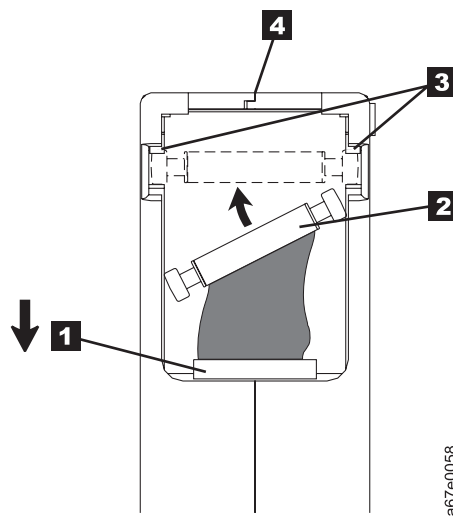

Figure 121. Placing the dislodged leader pin into the correct position. The cartridge door is open to show the leader pin.
1. Slide open the cartridge door (**1** in Figure 121) and locate the leader pin (**2** (you might need to shake the cartridge gently to roll the pin toward the door).